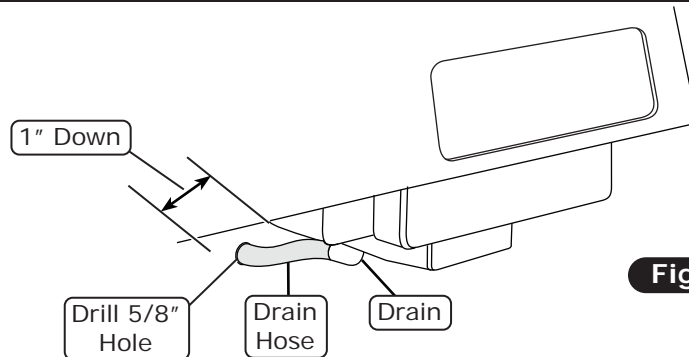

Figure 1
1. On the firewall, in line with the evaporator module drain, measure 1" down and drill a 5/8" hole (See Figure 1, below).
2. Install the drain hose to the outlet on the bottom of the evaporator module, and route through the firewall (See Figure 1, below).